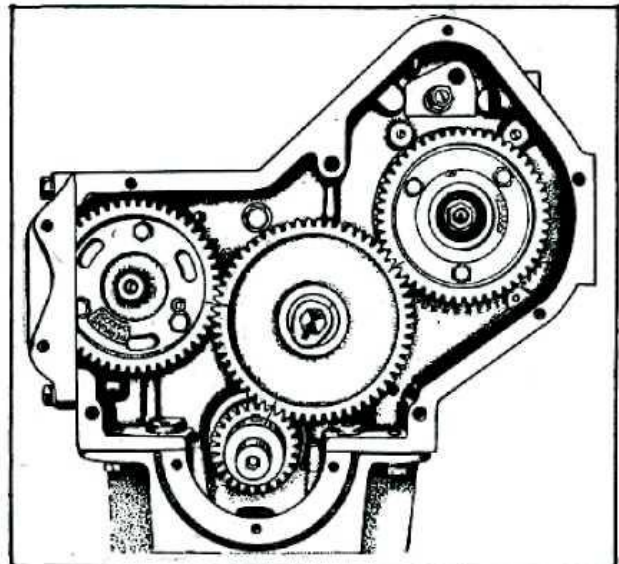

Fig. B.15 — Timing Gear Markings.
Turn the fuel pump shaft until the line on the adaptor plate marked "S" approximately lines up with the pointer on the fuel pump housing. Mount the gear on the adaptor with the adaptor plate in position. The setscrews pass through the three slots in the gears and the scribed line on the front of the gear must be towards the crankshaft as shown in Fig. B.15.
4. Place the idler gear in position with the markings aligned as shown in Fig. B.15. Turn the camshaft and fuel pump gears as necessary to align the markings. Check that the tappets of No. 4 cylinder are in the rocking position.
Note timing marks. (See Fig. B.15).